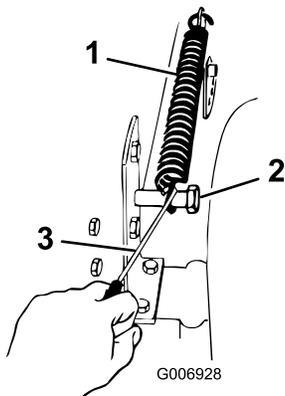

Figure 58
18. Hook the lift assist spring between the cutter deck right side lift bracket and the retaining bolt (Figure 58).